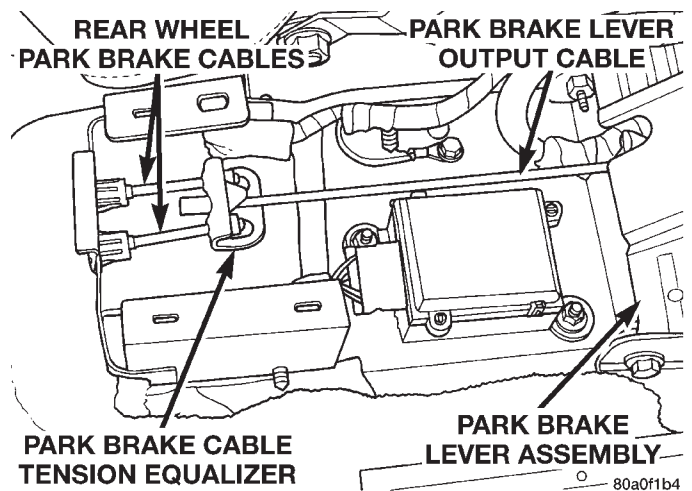

Fig. 137 Park Brake Cables At Tension Equalizer
(10) Remove both rear wheel park brake cables from the park brake cable tension equalizer (Fig. 137).
NOTE: If auto adjuster was not reloaded before removing the tension equalizer from both rear park brake cables, (Fig. 137) the park brake lever output cable (Fig. 137) will be pulled into the park brake mechanism.